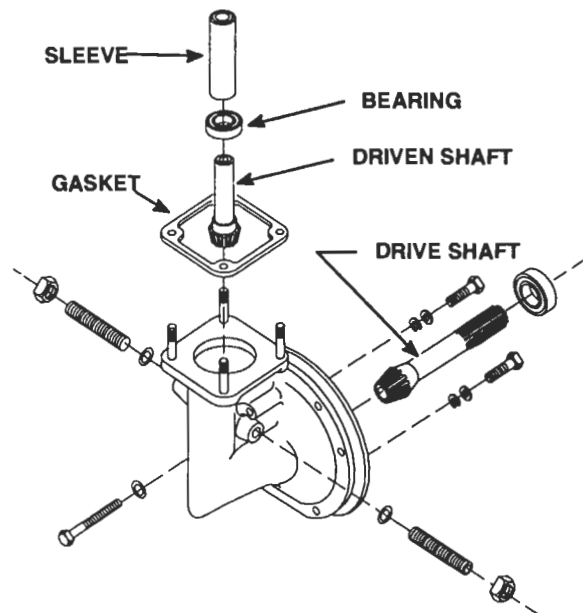

Figure 2. Governor Drive Components
1. Remove the two bearing retaining bolts (Figure 2.) and two set screws.